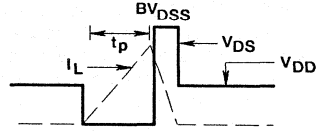

Figure 15. Unclamped Energy Waveforms
- $V_{DD} = 50\text{V}$, starting $T_J = +25^\circ\text{C}$, $L = 1.5\text{mH}$, $R_{GS} = 25\Omega$, $I_{PEAK} = 30\text{A}$. See Figure 15.